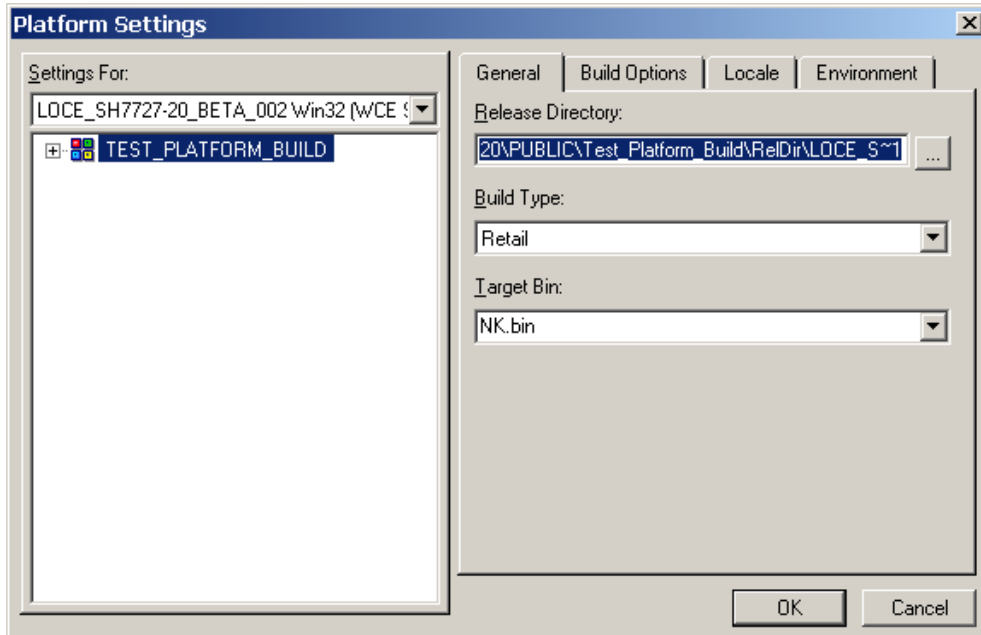

Figure 28: Platform Settings
28. The 'Platform Settings' window appears. Select '*your platform name*'-- the name you entered in step 4-- to see the following screenshot. (In Figure 28, below, the platform name is 'TEST_PLATFORM_BUILD'.')